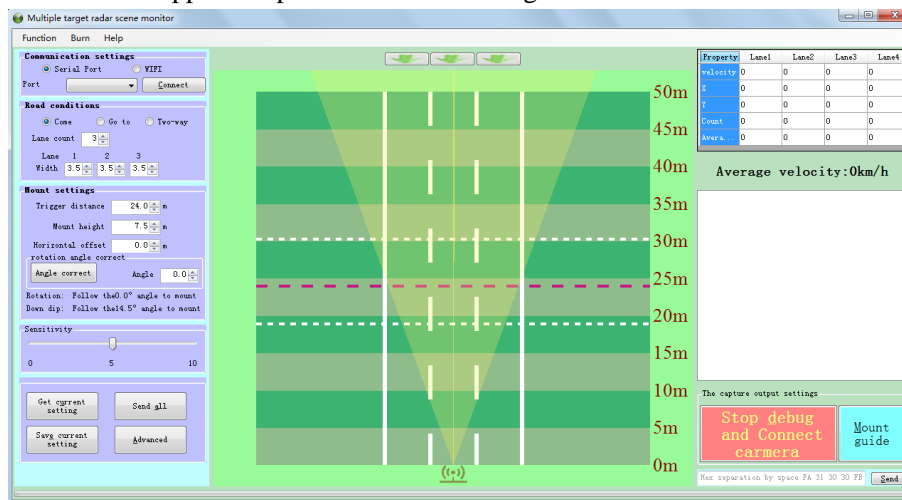

Figure 3.5: Main Interface of Radar Upper Computer
- (3) Main interface of radar upper computer is as shown in figure 3.5.